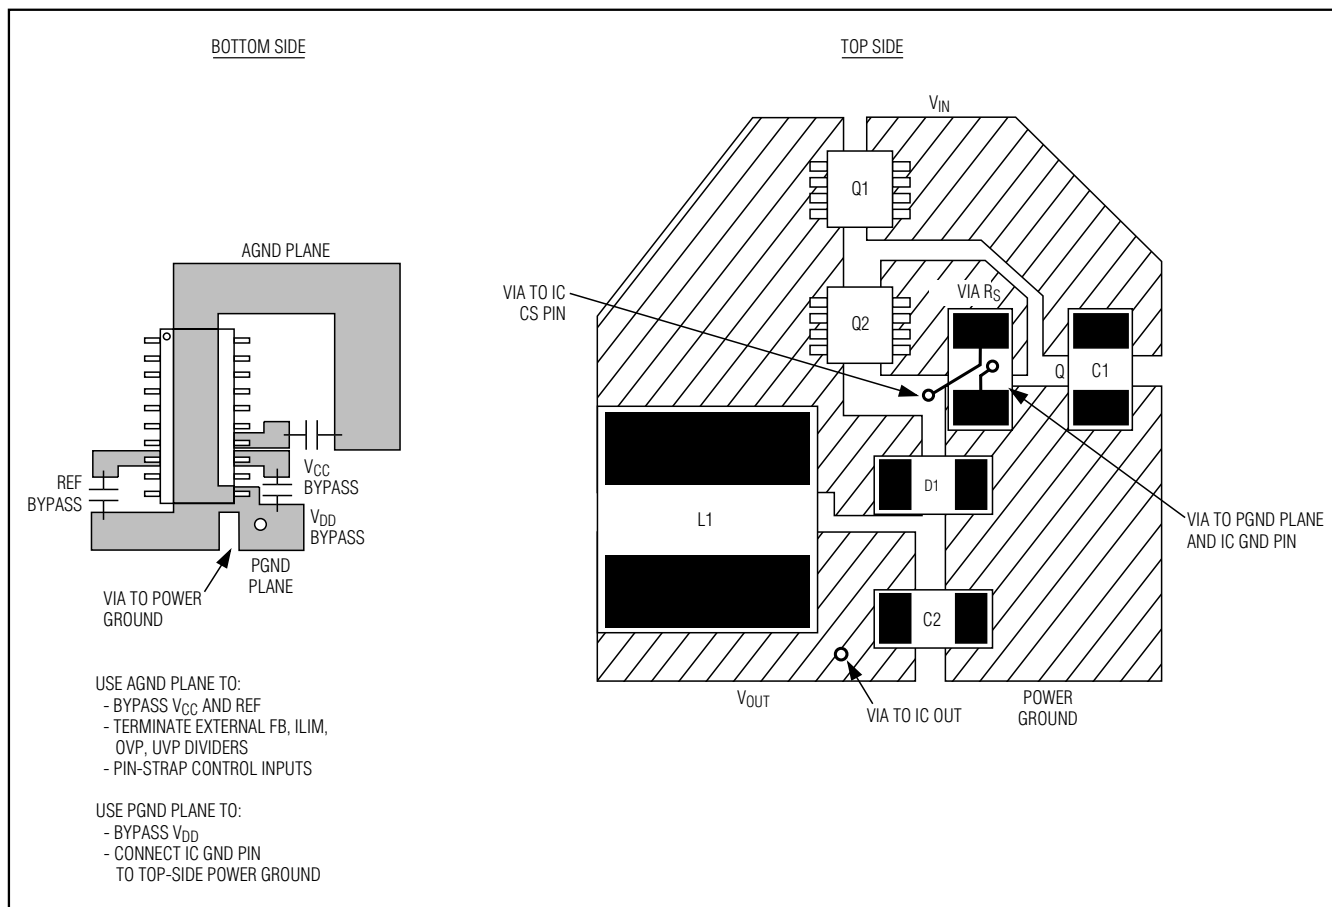

Figure 9. Power-Stage PC Board Layout Example
Careful PC board layout is critical to achieving low switching losses and clean, stable operation. The switching power stage requires particular attention (Figure 9). If possible, mount all power components on the top side of the board, with their ground terminals flush against one another. Follow these guidelines for good PC board layout:
- 4) Make the DC-DC controller ground connections as shown in Figure 9. This diagram can be viewed as having two separate ground planes: power ground, where all the high-power components go; and an analog ground plane for sensitive analog components. The analog ground plane and power ground plane must meet only at a single point directly at the IC.